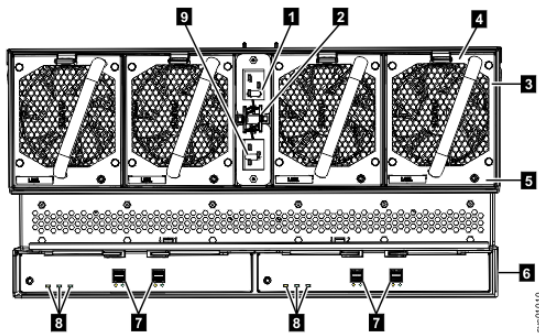
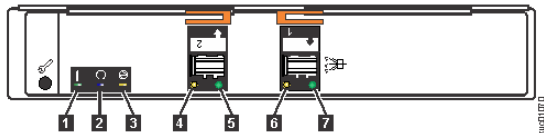

Figure 146. LEDs on the back of the expansion enclosure
Figure 147. LEDs on the back of the expansion canister
Table 19 on page 122 explains the function and status that is indicated by each of the LEDs. The power cords for each PSU are accessible from the rear of the expansion enclosure (1), as shown in Figure 146 on page 124.
Figure 146 on page 124 shows the rear view of a 2145-92F , expansion enclosure. LEDs on the rear of the enclosure provide information about each fan module, each expansion canister, and SAS links.
The expansion enclosure has four fans. Each fan has one LED; for example, Figure 146 on page 124 shows the location of the LED (5) for fan number four. When a fan is operating normally, the LED is not lit. If a fault is detected, the amber LED is lit.
As Figure 146 on page 124 also shows, the expansion enclosure contains two expansion canisters. Each expansion canister contains its own set of LEDs, as shown in Figure 147 on page 124. The LEDs provide status information about the expansion canister itself and the SAS connections.